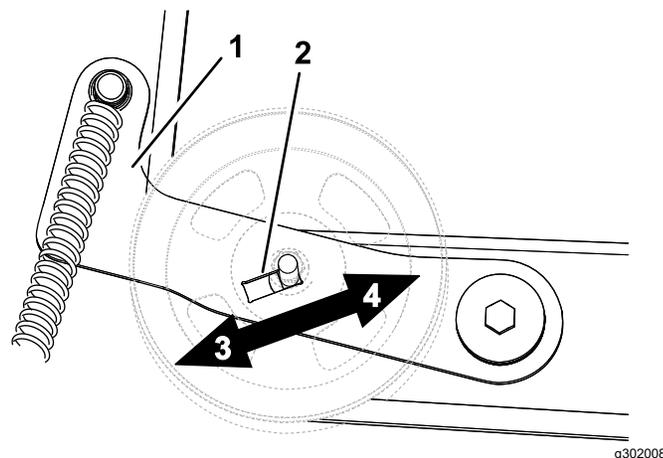

Figure 55
5. Adjust the pulley in the slot as needed (Figure 55).